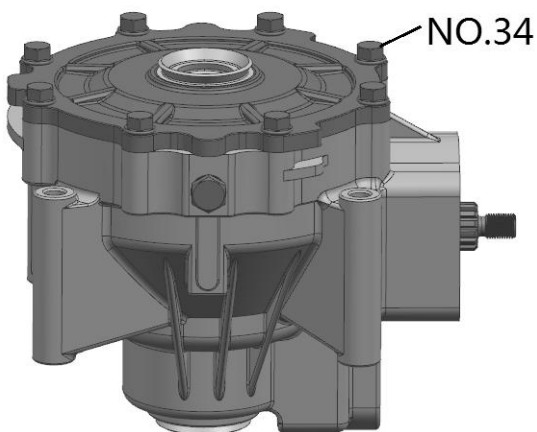

Fig 4
5. Remove Bolts M8 × 25 (NO.34) that secure the housing. →Fig 4